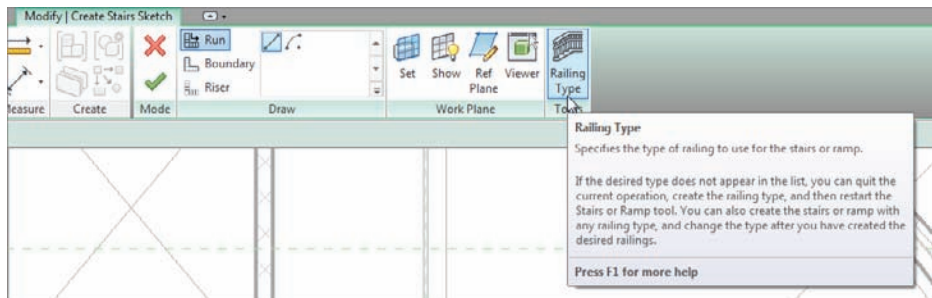

FIGURE 10.10 Click the Railing Type button
1. On the Modify | Create Stairs Sketch tab, click the Railing Type button, as shown in Figure 10.10.